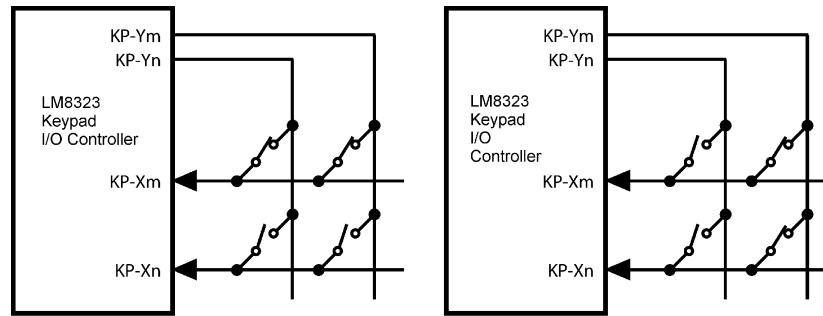

Figure 10. Simultaneous Keys Pressed
- With the activity time set between the minimum and maximum time (4 ms to 1 second) it is not safe to detect two simultaneous key pressings in one input row (see Figure 10 on the left hand side.)
- If all key pressings (two or more) are located in different input rows (see Figure 10 on the right hand side) then the key pressed events will be correctly found in the FIFO buffer without any restriction.